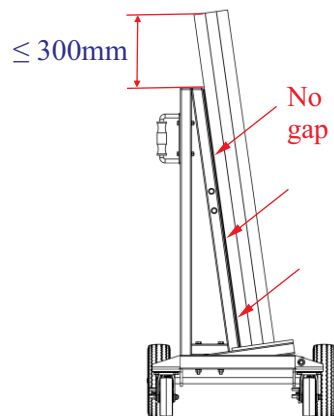

Figure 2.2
- The slabs must lean against the A-frame and make sure there is no gap between the stone slab and the A-frame (Figure 2.2).
- The operator must confirm the height of the slab shall not be more than 300mm from the top of the A-frame (Figure 2.2).